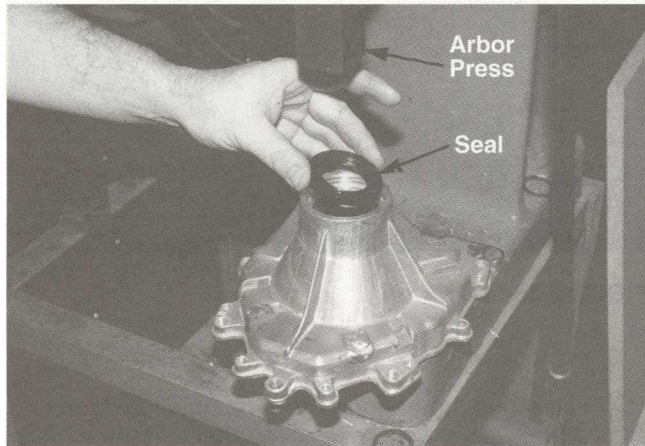

FIGURE 17.
17. Reassemble the axle, inspect the seal area of the housing for burrs or damage. The housing is chamfered so the seal starts easy and locates well. Using a piece of material close to the outside diameter of the seal so you are supporting it properly as you press it in. You will feel the seal bottom out against the shoulder of the inside of the housing. Inspect it to make sure it is seated properly. See figure 17.